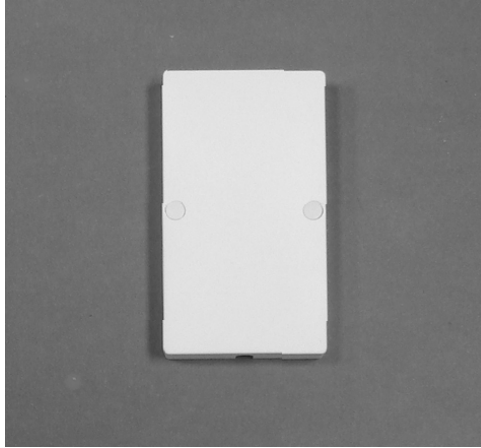

Figure 5 - Antenna Orientation
- The antenna must be mounted in a vertical orientation to obtain optimal signal strength. Refer to Figure 5 below.
1. Ensure the antenna is mounted vertically (see Figure 5).